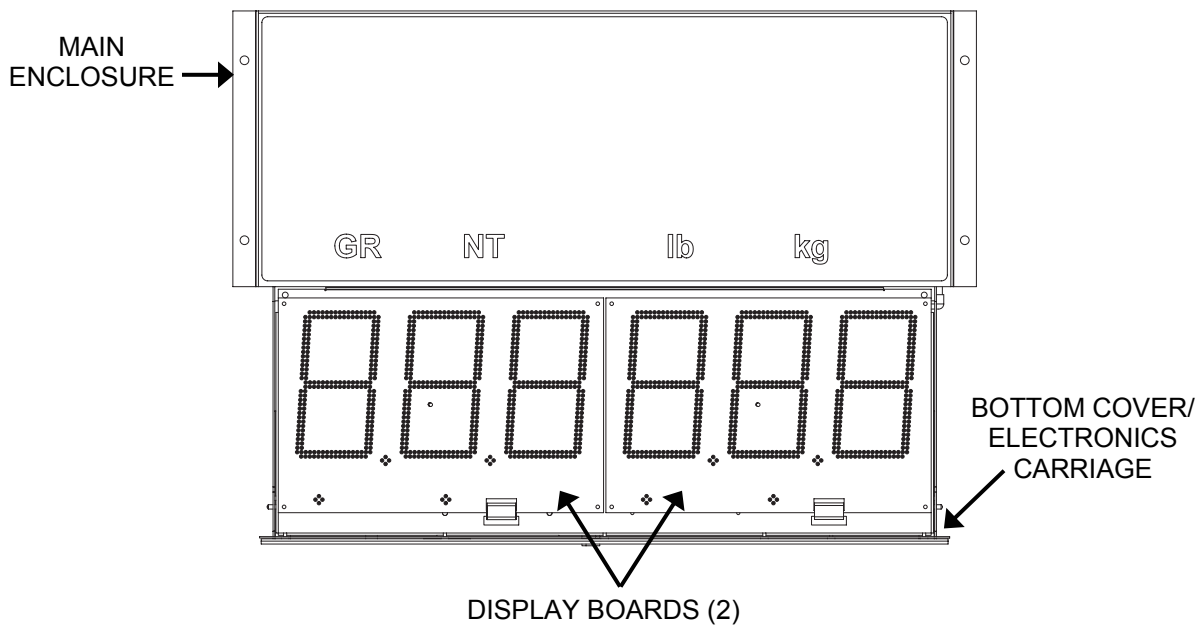

Fig. 6: Front View
4. The Electronics Carriage has tabs on either end that allow it to rest on the Main Enclosure's flange when mounted (As seen in Fig. 6 & 7).